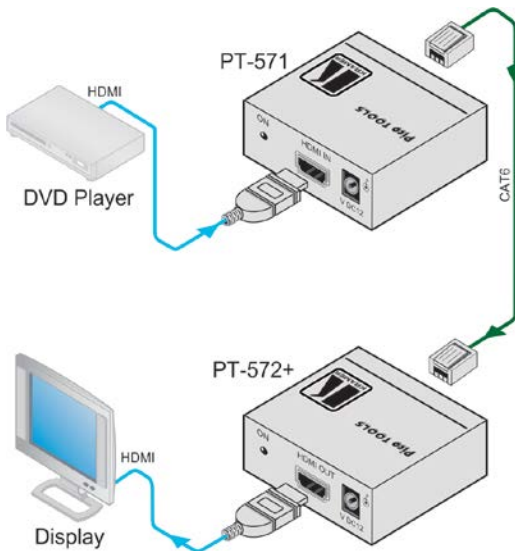

Figure 3: Connecting the PT-571/PT-572+ Transmitter/Receiver Pair
To connect the **PT-571** to the **PT-572+**, as illustrated in the example in Figure 3, do the following:
4. Connect the 12V DC power adapter to the power socket on the **PT-571** and/or the **PT-572+** and connect the adapter to the mains electricity (not shown in Figure 3).